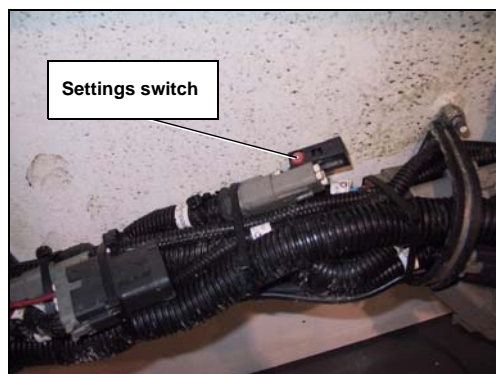

Figure 37. Multi-cycle settings switch
6. Press and hold the button on the settings switch (see Figure 37. “Multi-cycle settings switch”) for about three to four seconds. A continuous red light will appear.